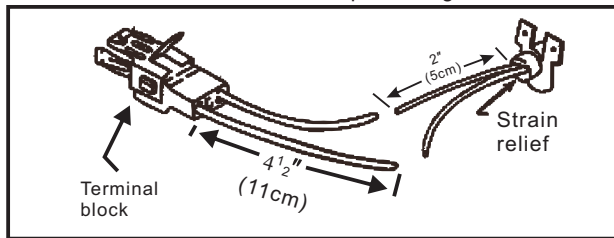

Figure 1
3. Raise the cooktop and remove the terminal block by cutting the two wires no more than 4 1/2" (11cm) from the terminal block and no closer than 2" (5cm) to the strain relief at the back of the cooktop. See Figure 1.